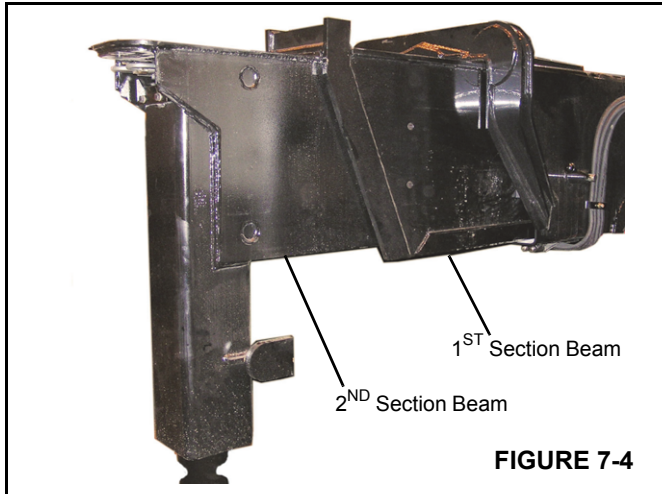

FIGURE 7-4
3. Extend the outrigger beam slightly so that a lifting strap (Figure 7-4) can be attached to the outrigger beam.